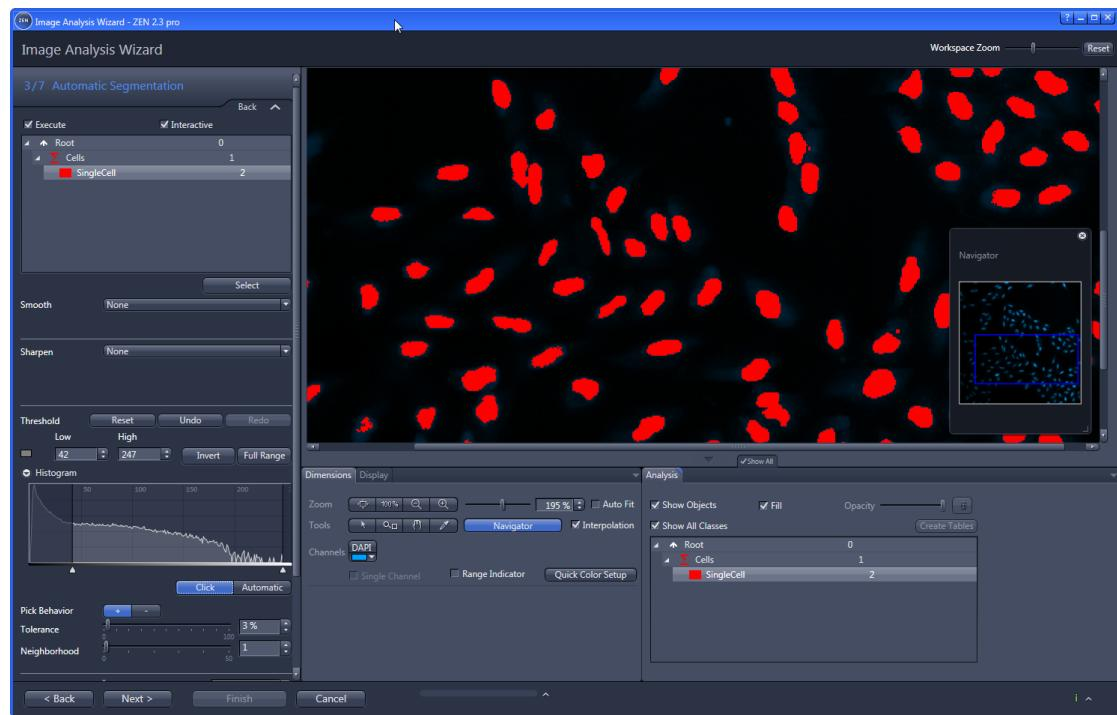

Figure 17: Image Analysis Wizard: Segmentation of the nuclei
2. Adjust the segmentation parameters in order to count single cells (Fig. 17). (For this example it is not crucial to get exactly the same number of cells as in this tutorial.)